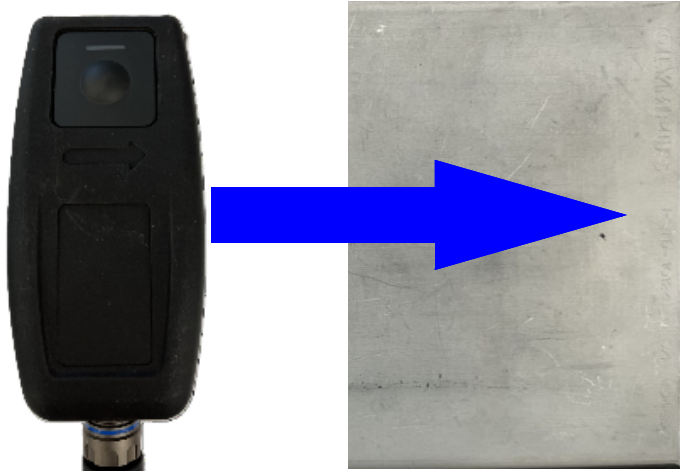
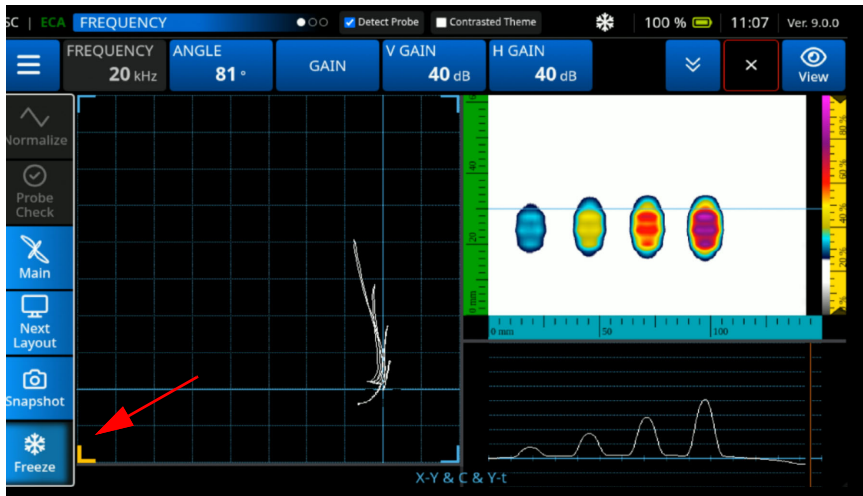

Figure 4-47 Position the Probe
Figure 4-48 Press Freeze
12. Position the probe at the left edge of the reference standard (See Figure 4-47 on page 154).
13. Scan from the left edge to the right edge of the reference standard (See Figure 4-47 on page 154) and press **Freeze** (See Figure 4-48 on page 154).
- Position the probe at the left edge of the reference standard (See Figure 4-47 on page 154).
Configuration Using Cursors	<p>To configure the settings using the cursors, complete the following steps.</p> <ol style="list-style-type: none"> 1. Position the probe at the left edge of the reference standard (See Figure 4-47 on page 154). 2. Scan from the left side to the right side, and press Freeze. 3. Press Fn . 4. Using the Index and Scan cursors, select the deepest corrosion spot (See Figure 4-51 on page 157). 5. Adjust the Gain to set the deepest corrosion spot as 80% FSH. 6. Press Freeze to return to live mode.
Defect Sizing	<p>To configure the defect sizing, complete the following steps.</p> <ol style="list-style-type: none">1. Position the probe at the left edge of the reference standard (See Figure 4-47 on page 154).2. Scan from the left side to the right side, and press Freeze.3. Press the Close icon to close the upper ribbon (See Figure 4-52 on page 158).  <p>The screenshot shows the ECA software interface. At the top, there is a ribbon with various settings: FREQUENCY (20 kHz), ANGLE (81°), GAIN (41.5 dB), V GAIN (41.5 dB), and H GAIN (41.5 dB). On the right side of the ribbon, there is a 'Close' icon (an 'X' in a square) and a 'View' icon. A red arrow points to the 'Close' icon. Below the ribbon, there are four corrosion defect images displayed on a grid. The leftmost image is the largest and most colorful, while the others decrease in size and color intensity from left to right. The interface also includes a left sidebar with icons for 'Main', 'Next Layout', 'Snapshot', and 'Freeze', and a top status bar with 'SC ECA', 'Detect Probe', 'Contrasted Theme', '100%', '11:49', and 'Ver. 9.0.0'.</p>
10. Verify the normalization process icon appears in the upper ribbon (See Figure 4-47 on page 154).